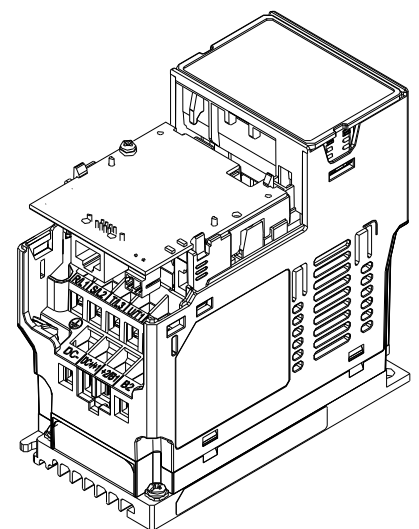

Figure 3-12
7. Assembly is completed, as shown in Figure 3-12.